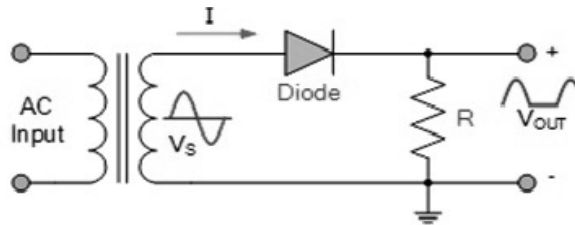

Figure 2: Circuit diagram of Half Wave rectifier.
1. Make the connection as per the circuit diagram shown in figure 2.